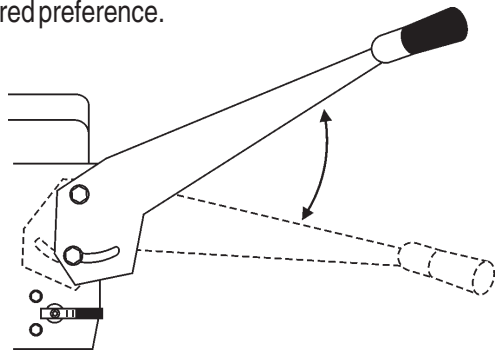

Figure 36. Handle Bar Height Adjustment
2. Move the handle bars (Figure 36) up or down to operators desired preference.